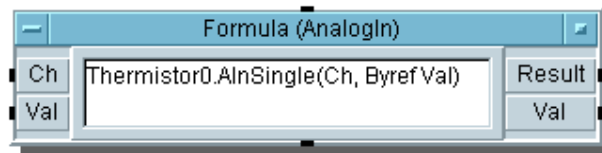

Figure 3-24. PC Plug-in Card with ODAS Driver as Formula Object
2. Select one of the sub-entries such as Thermistor0, and under Create I/O Object, select PCPI Driver. Click to place the object. It appears as a Formula object in VEE as shown in Figure 3-24.